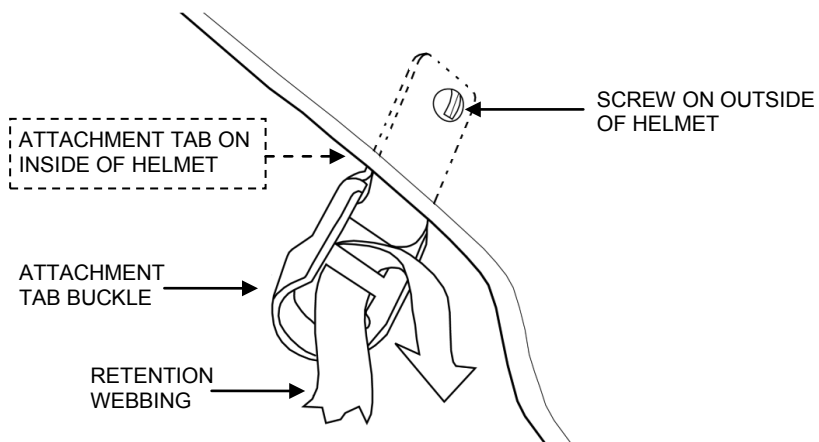

Figure 1. Universal Chinstrap Installation.
- c. Insert and thread the four legs of the chinstrap into their corresponding buckles as shown in Figure 1.